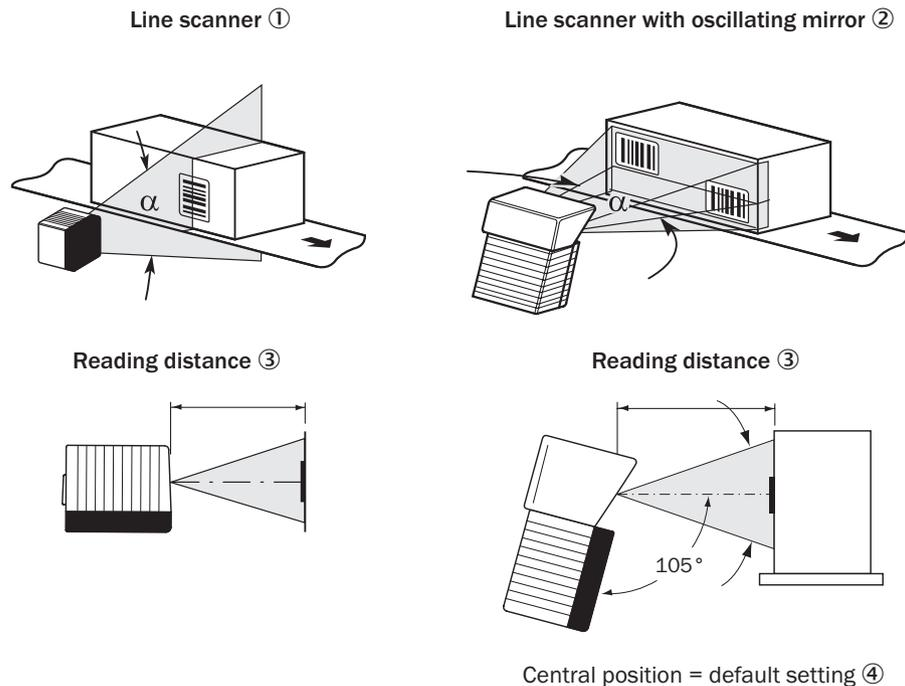

Figure 13: Allocation of the scan line to the bar code and conveyor direction
- Reading distance to the bar code and aperture angle α (see figure 13, page 26).